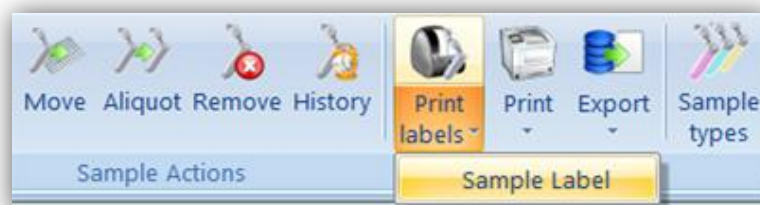

Figure 8.8. Printing sample labels.
2. Click the **Print Labels** split button (see Figure 8.8), or select one of the label templates from its drop down selection.